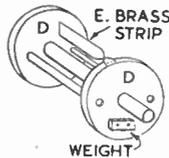

Fig. 3—Inside mechanism
Take care not to cut the pointed end too short. It will, in any case, require a little adjustment later, to ensure that it just catches the brass strips on the inner drum but does not project sufficiently to prevent the outer drum from revolving independently of the inner. Cut two lengths of  $\frac{1}{2}$  in. dowel and the one piece of  $\frac{1}{2}$  in. dowel and glue these into the smaller discs as shown at Fig. 3.
As a trial, cut the pieces  $3\frac{1}{2}$  ins., 3 ins.,  $2\frac{1}{2}$  ins., 2 ins., 2 ins. and  $1\frac{1}{2}$  ins. Drill two small holes in each, at one end, and then, holding them in a vice or between pliers, twist them to a right-angle near the end where the holes have been drilled, as shown at Fig. 1 (E). Divide one of the discs into six equal divisions round the edge (60 degrees each by protractor) then screw one piece of the metal strip in the middle of each section. This is shown at Fig. 3, but for clearness only one of the six notes is shown.
Now remove the drum again and screw a small piece of sheet lead (or anything similar that can be drilled for screws) about 1 in. by  $\frac{1}{2}$  in. to each of the drum discs, as shown at Fig. 3. Glass-paper the main spindle and the holes bored for it in the big discs, until the drum spins freely. Then put the drum into position and add the second big disc. The drum is prevented from moving sideways by wooden pegs glued through the spindle at each end, as shown in the sketch of the complete toy.